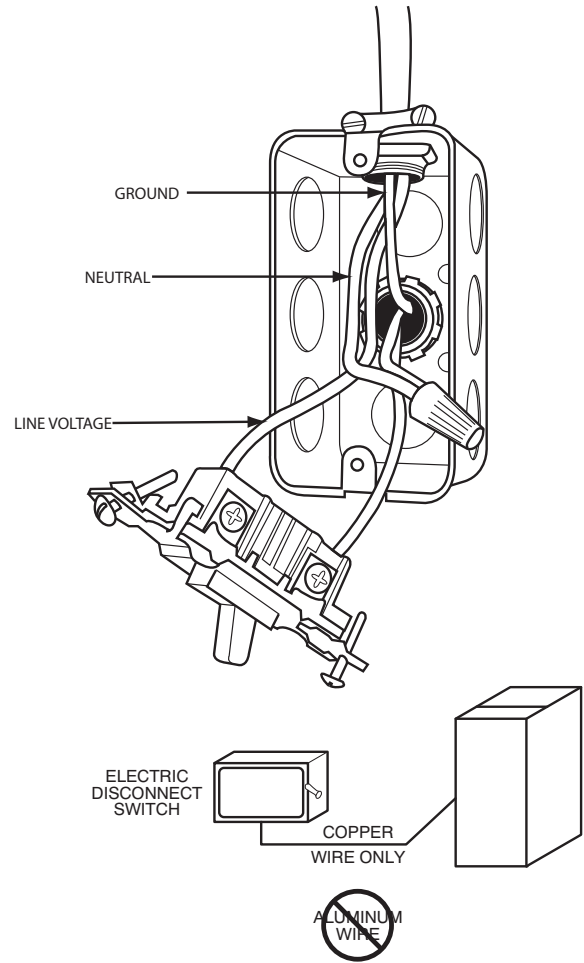

Fig. 33 - Field-Supplied Electrical Box on Furnace Casing
Do not connect aluminum wire between disconnect switch and furnace. Use only copper wire. See Fig. 33.
1. Fasten a field-supplied external electrical box to the outside of the casing by driving two field-supplied screws from inside electrical box into casing. See Fig. 33.
9. Complete external disconnect wiring and installation. Connect line voltage leads as shown in Fig. 33. Use best practices (NEC in U.S.A. for wire bushings, strain relief, etc., CANADA: Canadian Electrical Code CSA C22.1)